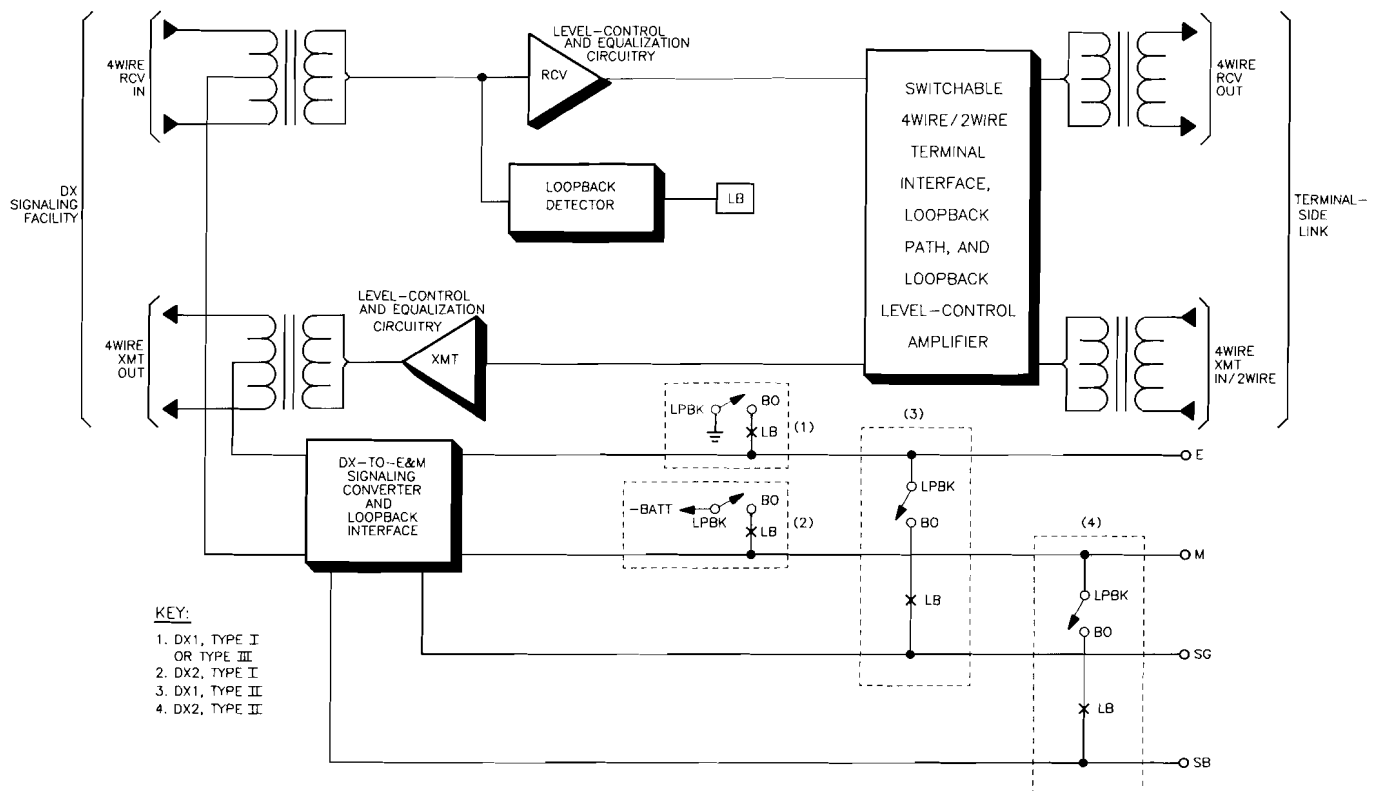

figure 11. Loopback route through 6168B and 6168C modules
2.19 **Overview.** Integral facility-side transmission and signaling loopback circuitry in the 6168B and 6168C allows local or remote testing of both the module and the facility. This loopback circuitry can be activated either manually (locally) or via 2713Hz tone (remote two-tone loopback). A prescription loopback-level-control circuit introduces from 0 to 24dB of loss or from 0 to 24dB of gain into the loopback path in switch-selectable 0.1dB increments to provide true equal-level transmission loopback. In addition, a switch option conditions the 6168B or 6168C to busy out its terminal side during loopback (see paragraph 2.23). Figure 11 shows, in simplified form, the transmission and signaling loopback paths through the 6168B and 6168C modules. A front-panel *lpbk* LED lights whenever either module is in the loopback mode.